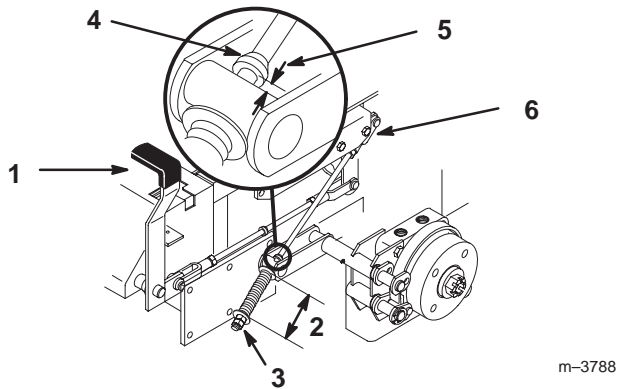

Figure 74
2. Measure the length of the spring. The measurement should be 2-3/4 inch (70 mm) between the washers (Fig. 74).
3. If an adjustment is necessary, loosen the jam nut below the spring and tighten the nut directly below the yoke (Fig. 74). Turn the nut until the correct measurement is obtained. Tighten the two nuts together and repeat on the opposite side of the unit.
6. Measure the distance between the trunnion roller and the collar on the brake rod. The measurement should be 3/16-1/4 inch (5-7 mm) (Fig. 74).
7. If an adjustment is necessary, loosen the jam nut directly below the yoke. Turn the bottom rod until the correct measurement is obtained (Fig. 74). Tighten the jam nut at the yoke.